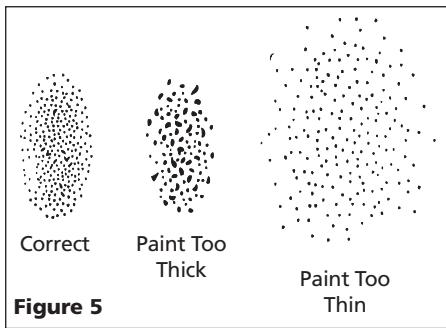

Figure 5
- With gun 8 inches away from surface, trigger a short, one second burst while turning fluid control knob counterclockwise. Observe the spray pattern on the target and adjust the fluid control knob until the desired pattern (atomization) is obtained (See Figure 5).